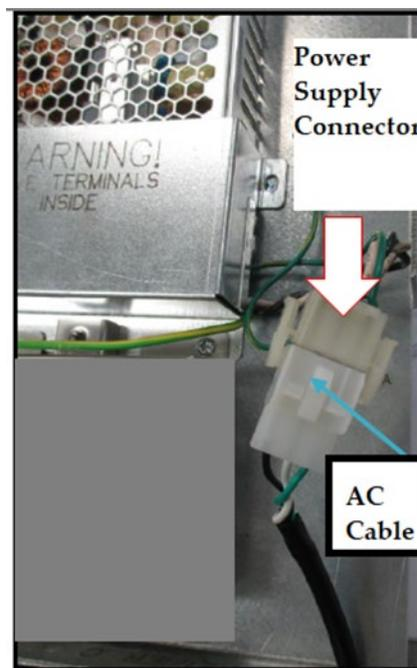

Figure 185
10) Disconnect the AC power cable that is attached to the power supply connector without the Invenco Link attached. See Figure 185 below.